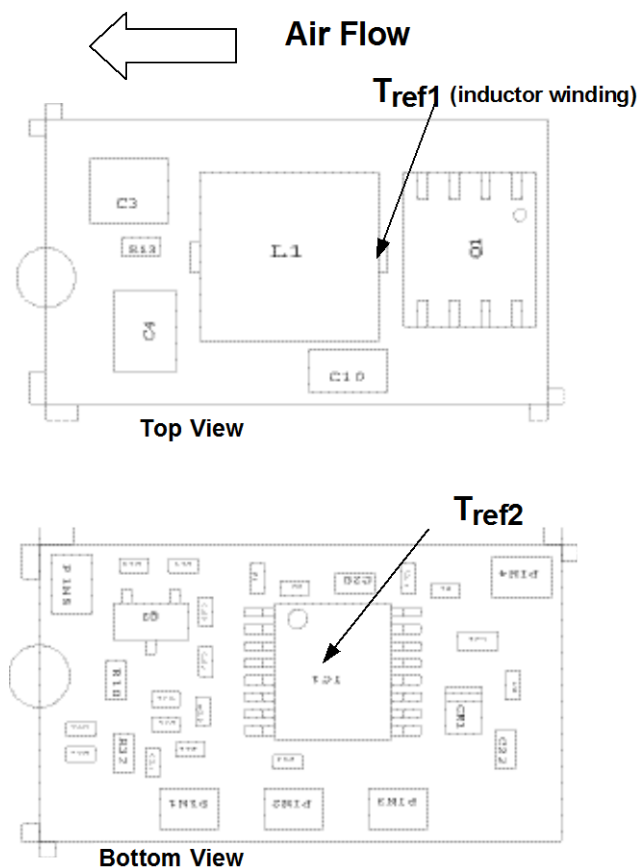
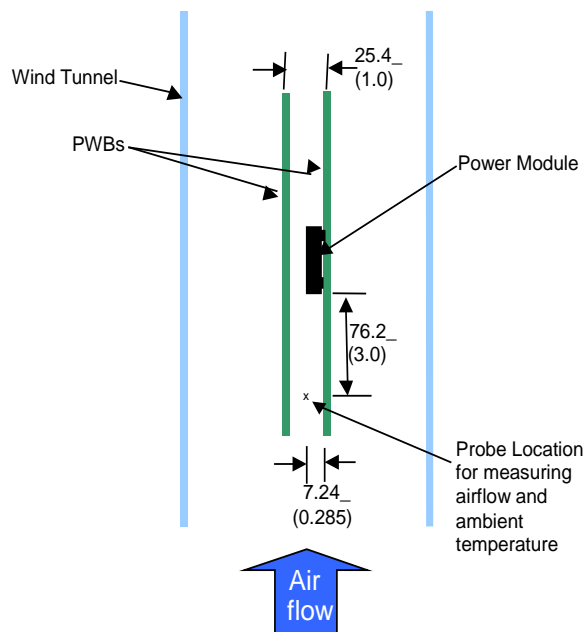

Figure 32. Tref Temperature measurement location.
Figure 33. Thermal Test Set-up.
Considerations include ambient temperature, airflow, module power dissipation, and the need for increased reliability. A reduction in the operating temperature of the module will result in an increase in reliability. The thermal data presented here is based on physical measurements taken in a wind tunnel. The test set-up is shown in Figure 33. Note that the airflow is parallel to the long axis of the module as shown in figure 32. The derating data applies to airflow in either direction of the module's long axis.
The thermal reference points,  $T_{ref1}$  and  $T_{ref2}$  used in the specifications of thermal derating curves are shown in Figure 32. For reliable operation these temperatures should not exceed 125°C.